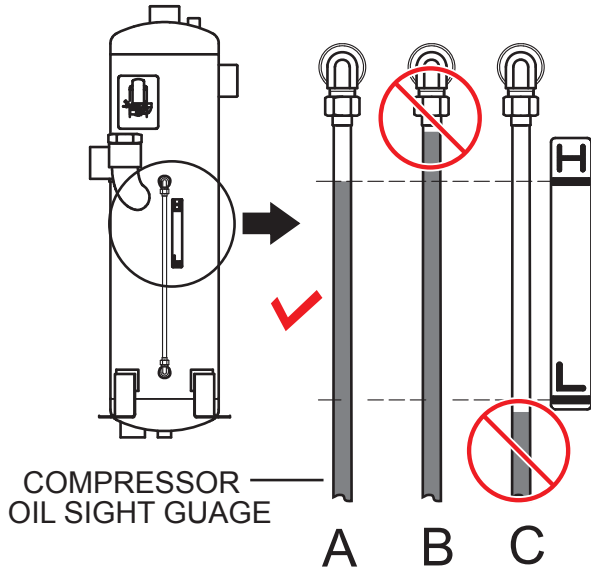

Figure 12. Checking Compressor Oil Level
2. Verify that the tubular sight gauge (Figure 12) indicates the appropriate compressor oil level.